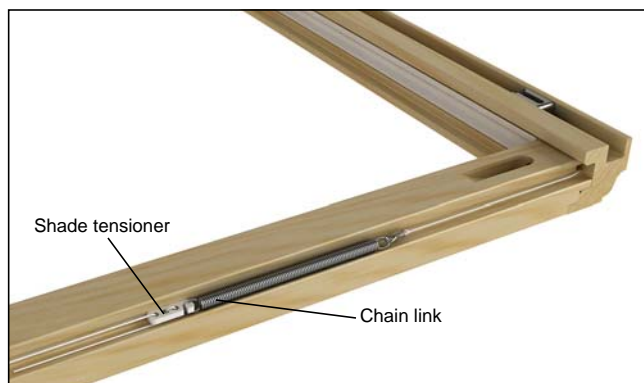

Figure 3
3. Locate springs on header of interior shade system. Unhook both ends of the springs by unhooking both the single chain link and the slide tensioner, and remove the cords from the backside of the interior shade surround by pulling the cords through the end cut of the rail. See figure 3. *Note:* You may need a small pliers to open the link in the chain.